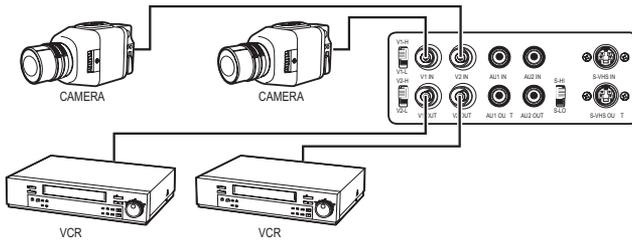

Figure 2. Looping Operation - One Monitor with External Video Equipment
- b. Looping Operation Only - Connect a video cable to the BNC connector labeled V1 OUT. If the installation requires a second video output, connect a video cable to the BNC video output labeled V2 OUT. Refer to Figures 2 and 3.
- b. Looping Operation Only - Set the impedance switch to the V1-HI and V2-HI positions. Refer to Figures 2 and 3.